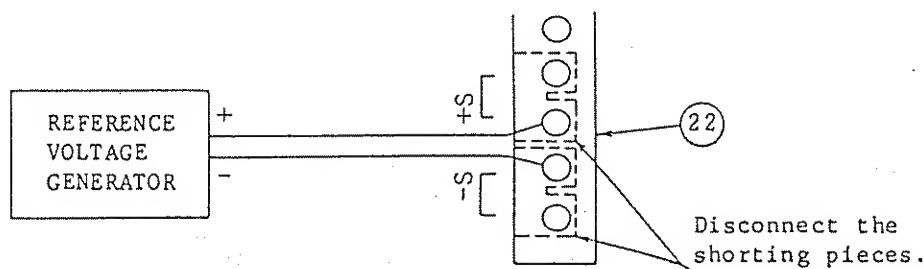

Figure 4-4-1
The input circuit of the voltmeter is connected to the +S and -S terminals of control terminal block (23) on the rear panel. Remove the shorting pieces (22) and connect a reference voltage generator to the +S and -S terminals as shown in Figure 4-4-1.